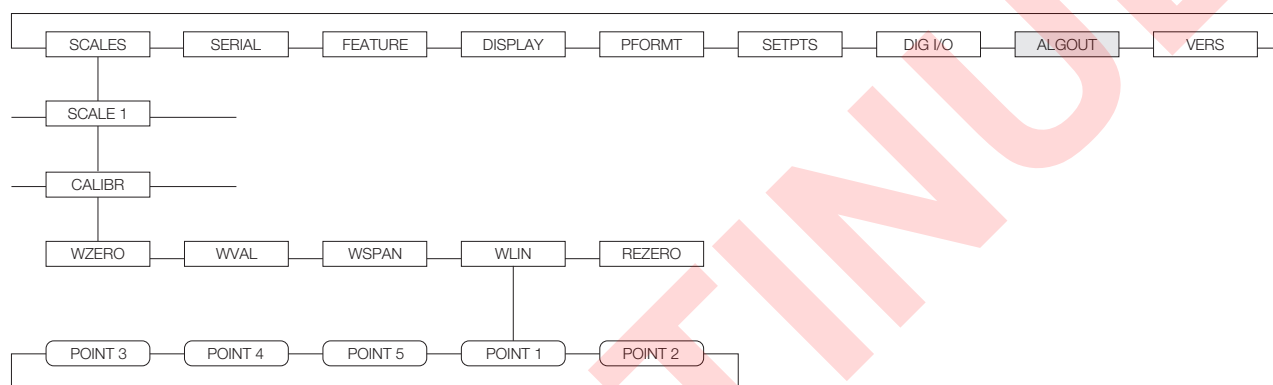
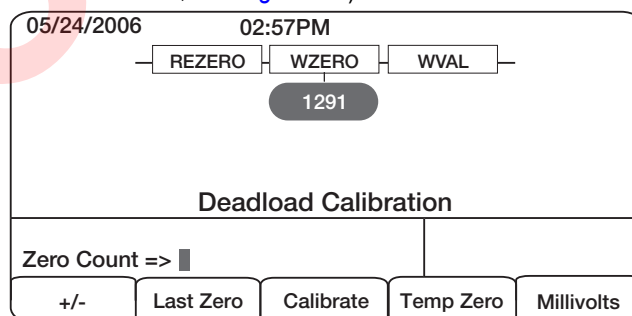

Figure 4-1. Calibration (CALIBR) Submenu
Figure 4-2. WZERO Calibration Display
The CALIBR submenu (under the SCALES menu, see Figure 4-2) is used to calibrate the 820i.
2. With the **SCALES** menu highlighted, press the **down** key, then select the scale to be calibrated. Press **down** again (**GRADS** parameter highlighted), then press **left** to highlight the **CALIBR** submenu (see Figure 4-1 on page 53). Press **down** to go to zero calibration (**WZERO**). See Figure 4-2 on page 53.